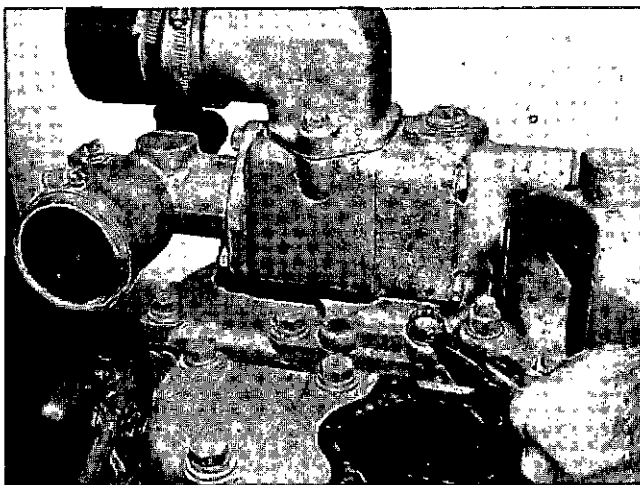

Fig. 14-1-63, V40053. Installing thermostat and housing
4. Install thermostat housing and secure with lockwashers and capscrews. Fig. 14-1-63. Torque to 45 to 55 ft-lb [6.2235 to 7.6065 kg m].